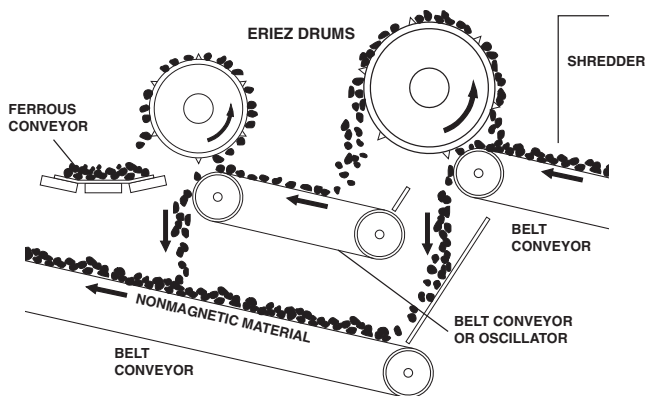
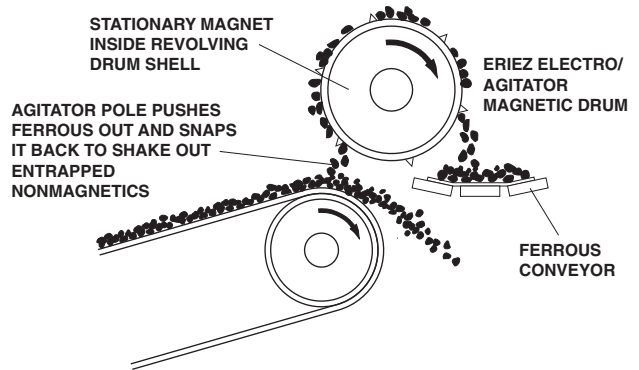

FIGURE 3.
FIGURE 4.
- Feed to the bottom of the drum as shown in Figure 3 for a double drum installation or as shown in Figure 4 for a single drum installation.
For the cleanest possible recovered metal without secondary shredding or air classification, a two drum installation as shown in Figure 3 is recommended.